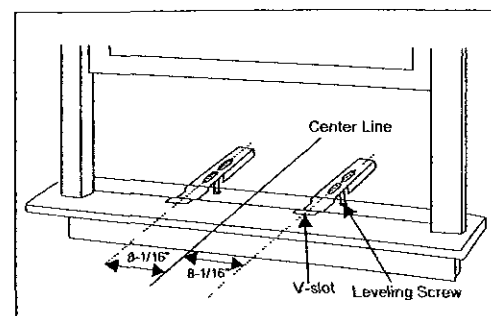
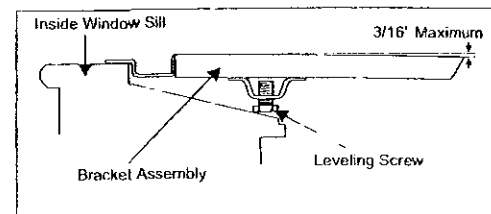

Fig 10
Fig 11
B Measure the inside window sill width and find the center line as shown in (Fig. 10). From this center line, measure $8 \frac{1}{16}$ " on each side and mark these points. Align the V-slot in each bracket on these marks and mount to sill using (2) 3/4" screws provided per bracket. Brackets should be perpendicular to the inside window sill. See (Fig 11)
C Adjust the **leveling screws** until the bracket tilts no more than **3/16"** downward to the outside. Do not allow the bracket to slant inward as condensation could possibly drip on interior walls and floors. See (Fig. 11)
C. Check to make sure that the cabinet is slanted slightly downward on the outside. If necessary, re-adjust support bracket as shown in (Fig. 11)